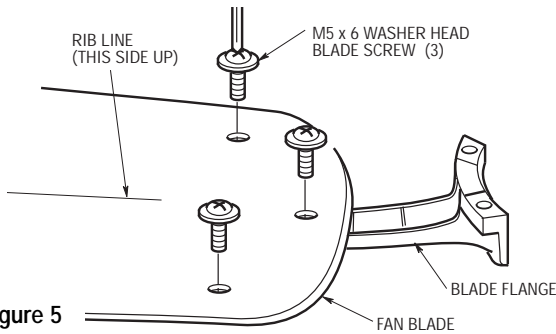

Figure 5
IMPORTANT: THE SIDE OF THE FAN BLADE HAVING THE RIB LINE MUST BE FACING UPWARDS AS SHOWN IN FIGURE 5.
- 7. Mount blade flanges to fan blades using three M5 x 6 washer head screws per blade (Figure 5).